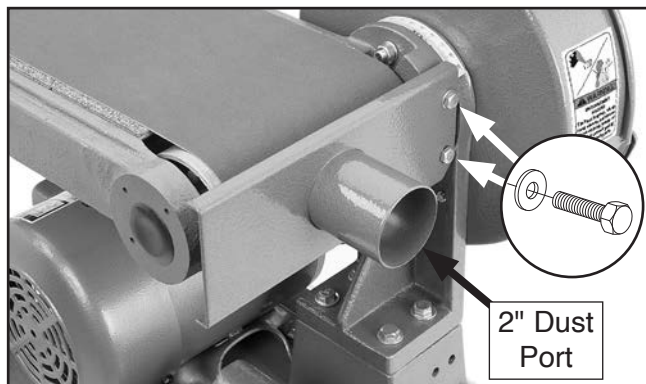

Figure 38. 2" dust port installed.
33. Install the 2" dust port onto the back of the sanding belt frame with the pre-installed $\frac{1}{4}$ "-20 x $\frac{1}{2}$ " hex bolts and $\frac{1}{4}$ " flat washers, as shown in **Figure 38**.